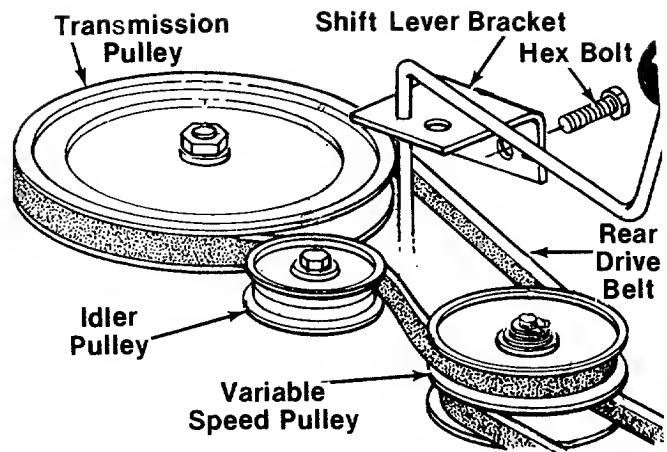

FIGURE 24.
3. Push the idler pulley toward the right side of the unit. Lift the belt over the idler pulley. See figure 24.
5. Remove the two bolts which hold the shift lever bracket to the frame on the left side of the unit. Swing the bracket toward the right so the belt can be removed from the transmission pulley. See figure 24.